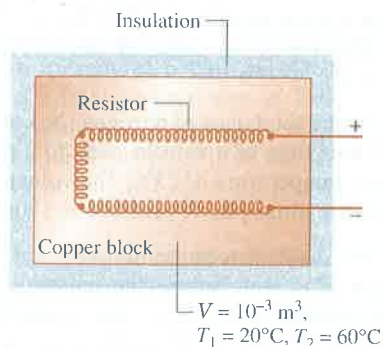

Fig. P3.87
3.87 Shown in Fig. P3.87 is an insulated copper block that receives energy at a rate of 100 W from an embedded resistor. If the block has a volume of 10^{-3} m^3 and an initial temperature of 20°C , how long would it take, in minutes, for the temperature to reach 60°C ? Data for copper are provided in Table A-19.